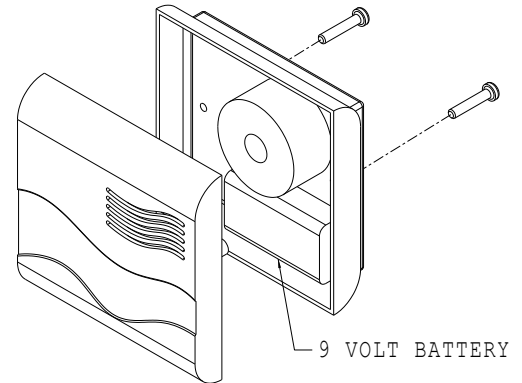
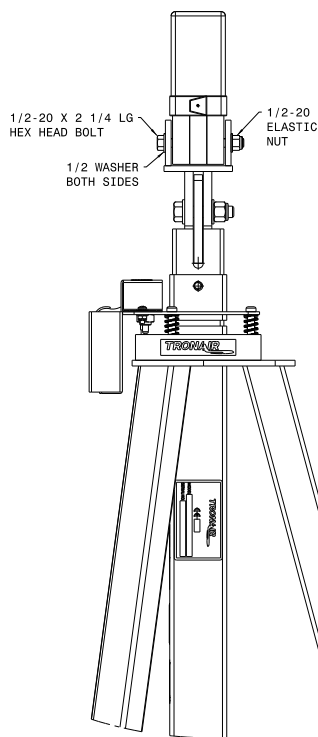

FIGURE 2
FIGURE 3
**Reference Figure 2.**
2. Fasten cradle assembly to extension tube with one (1) ½ - 20 x 2 ¼ inch hex head bolt, two (2) ½ inch flatwashers, and ½ - 20 elastic stopnut.
**Reference Figure 3.**